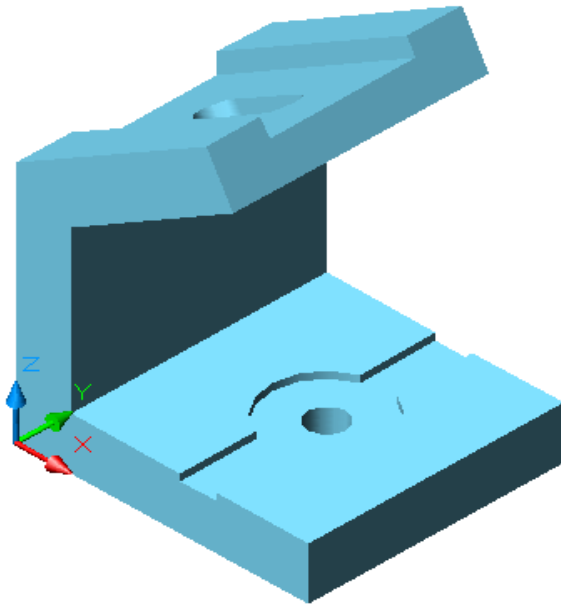

Figure Step 3A
Step 3 Using the figures as a reference, draw the solid model. (Figure Step 3A, 3B, and 3C)